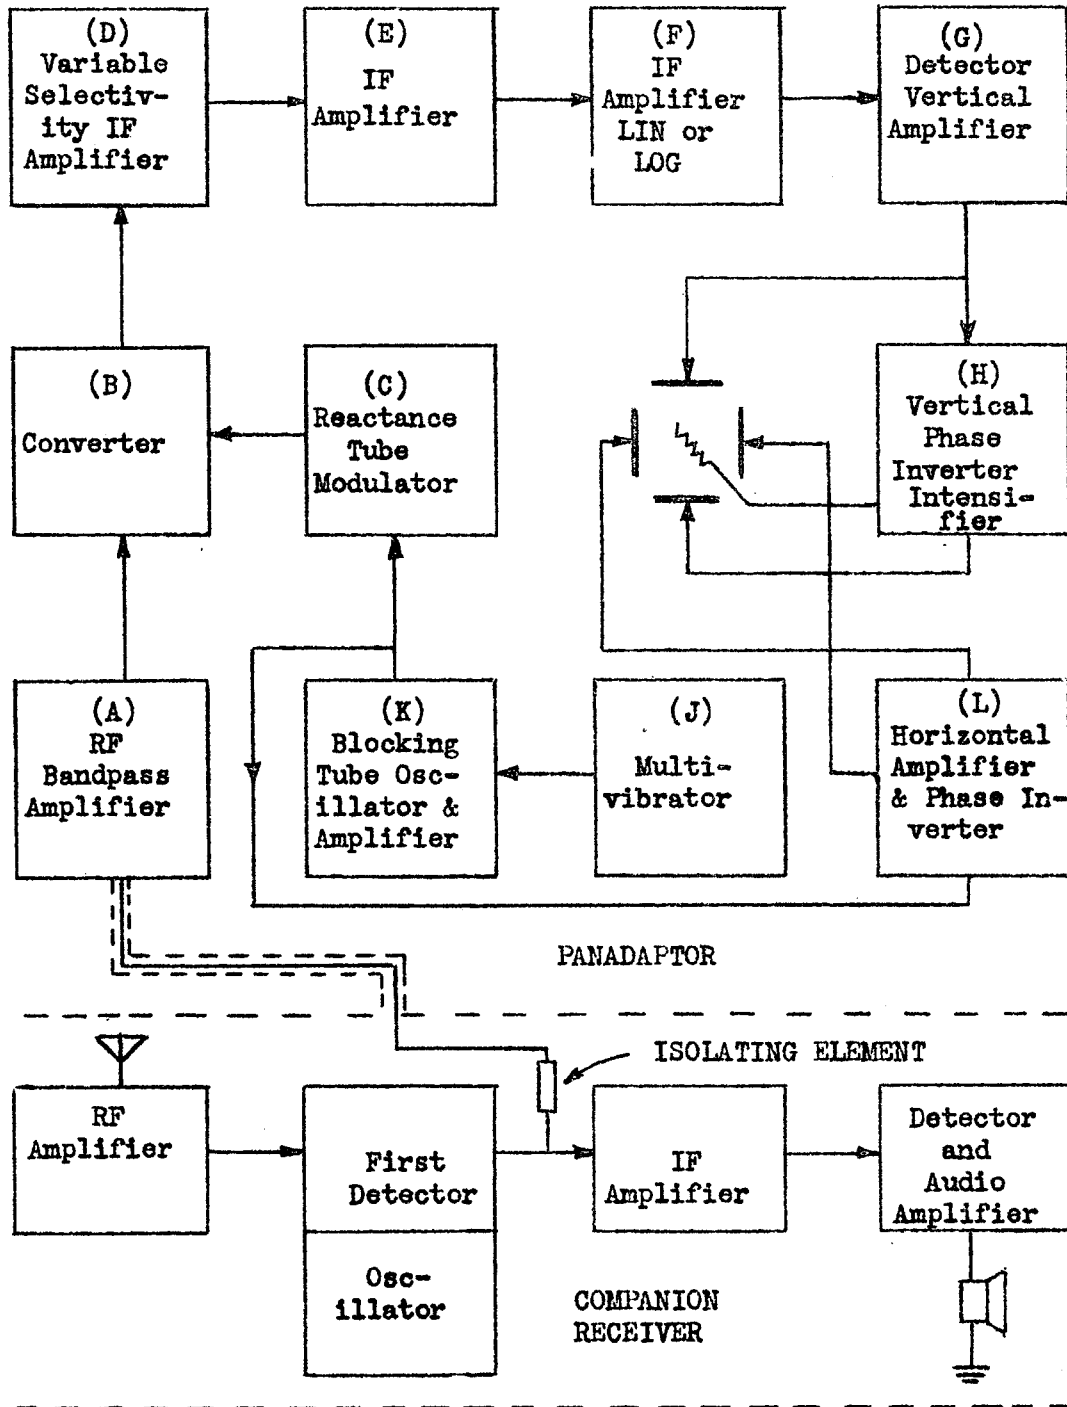

Figure 4 - Block Diagram, Panadaptor and Companion Receiver.
The signal input is passed from the output of the converter in the receiver through an isolating element and RF cable to the input RF transformer. Refer to Block A of Figure 4. The capacity of the cable is part of shunt capacity across the primary of the transformer. The isolating element prevents undesirable interaction.
c. Converter: The block marked B in Figures 4 and 5 represent the converter. The stage employs a 6BE6 pentagrid converter tube, V3, which serves as an oscillator tube and also acts as a mixer to combine the output of the oscillator with the output of the RF Bandpass Amplifier. A difference frequency results. This is the I.F.
d. Reactance Tube Modulator: The block marked C in Figures 4 and 5 is the reactance tube modulator. This tube is connected to the oscillator through a phase shifting network in such a manner that it becomes part of the oscillator tuned circuit. By varying the control grid voltage of this tube, a 6AH6 (V4), the reactive current of the tube changes in such a manner as to swing the frequency of the oscillator. Such a controlling voltage variation is applied to the grid periodically. The voltage is derived from a sawtooth voltage generator. When the sawtooth voltage is zero, the oscillator
e. I.F. Section: The blocks marked D, E and F in Figures 4 and 5 illustrate the I.F. section.
The form of the indication represents, to a degree, the response characteristic of the I.F. Section. For maximum resolution there is a definite relationship between I.F. bandwidth and scanning velocity, that is the number of cycles scanned in a given time. The SWEEPWIDTH and SWEEP RATE SELECTOR controls permit variations in scanning velocity. Therefore, to achieve maximum resolution for given scanning widths and rates two variable selectivity I.F. stages are incorporated. These are represented in Figures 4 and 5 by block D, the first section of the I.F. strip.